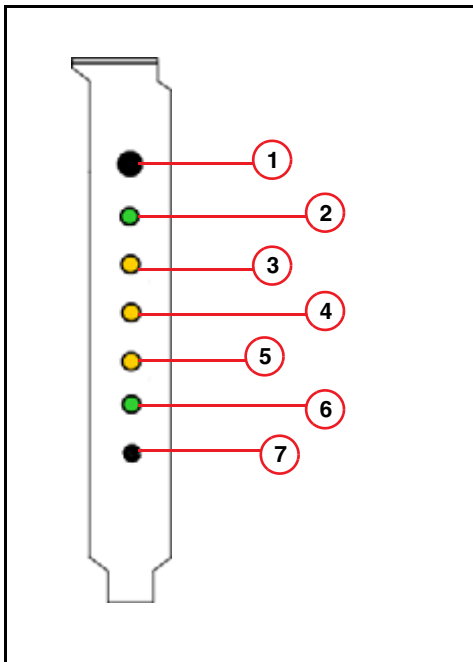

Fig. 19: Dashboard
- The **ON/OFF** button (1/Fig. 19 / p. 46) is used to switch each computer system on and off, independent of the other computers.
- The green **Power** LED (2/Fig. 19 / p. 46) indicates that the computer is on or off.
- Each computer system is monitored for power. The LED **Power Fail** (3/Fig. 19 / p. 46) on indicates a power failure. Additionally, an error message is sent to the event log.
- Temperature monitoring is currently only supported via "PC Health monitoring." In case of failure, a message is sent to the event log, but the yellow LED **Overheat** (4/Fig. 19 / p. 46) does not light up.
- The yellow LED **LAN** (5/Fig. 19 / p. 46) indicates activities on the On-Board-LAN connection.
- The green **HDD** LED (6/Fig. 19 / p. 46) indicates access to the hard disk drive of the operating system.
- The **Reset Button** (7/Fig. 19 / p. 46) is used to prompt the computer to perform a hardware reset. A boot-up is performed. Use a pen with a thin tip to press the button.